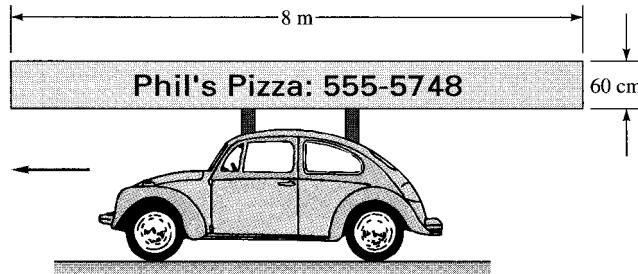

Fig. P7.56
**7.56** A delivery vehicle carries a long sign on top, as in Fig. P7.56. If the sign is very thin and the vehicle moves at 65 mi/h, (a) estimate the force on the sign with no crosswind. (b) Discuss the effect of a crosswind.